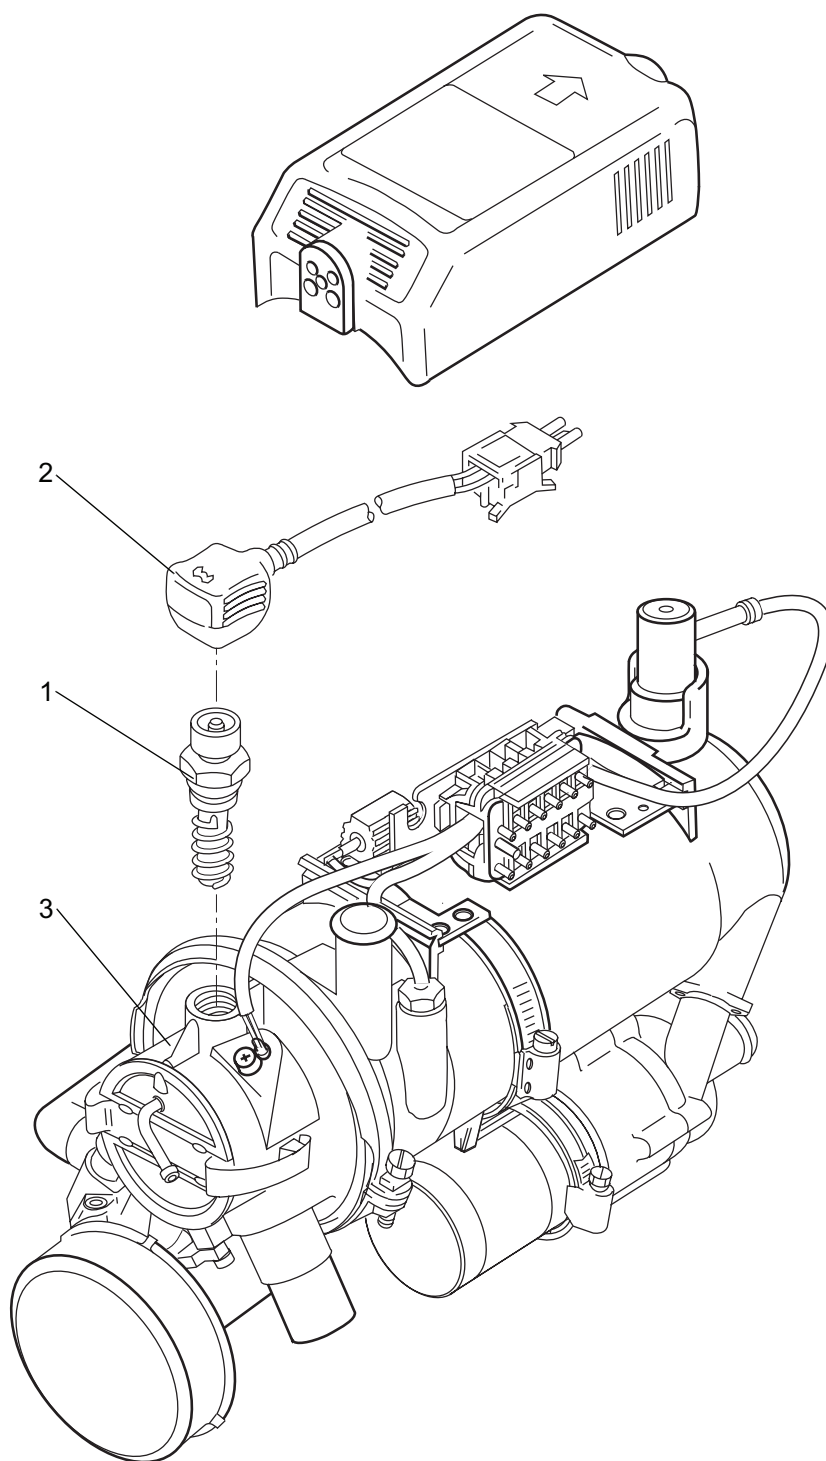

Fig. 905 Replacement of Glow Plug
3. Pull wiring harness (2, Fig. 905) from glow plug (1).
4. Unscrew glow plug (1) from burner head (3).
2. Screw glow plug (1, Fig. 905) into burner head (3) and torque with 30 Nm.
3. Plug wiring harness (2) onto glow plug (1).